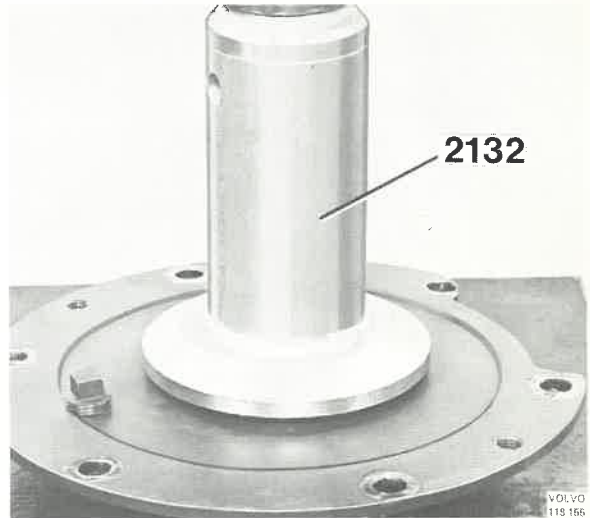

Fig. 92-91. Pressing in the seal
36. Press the seal into the cover with 2132, see Fig. 92-91.